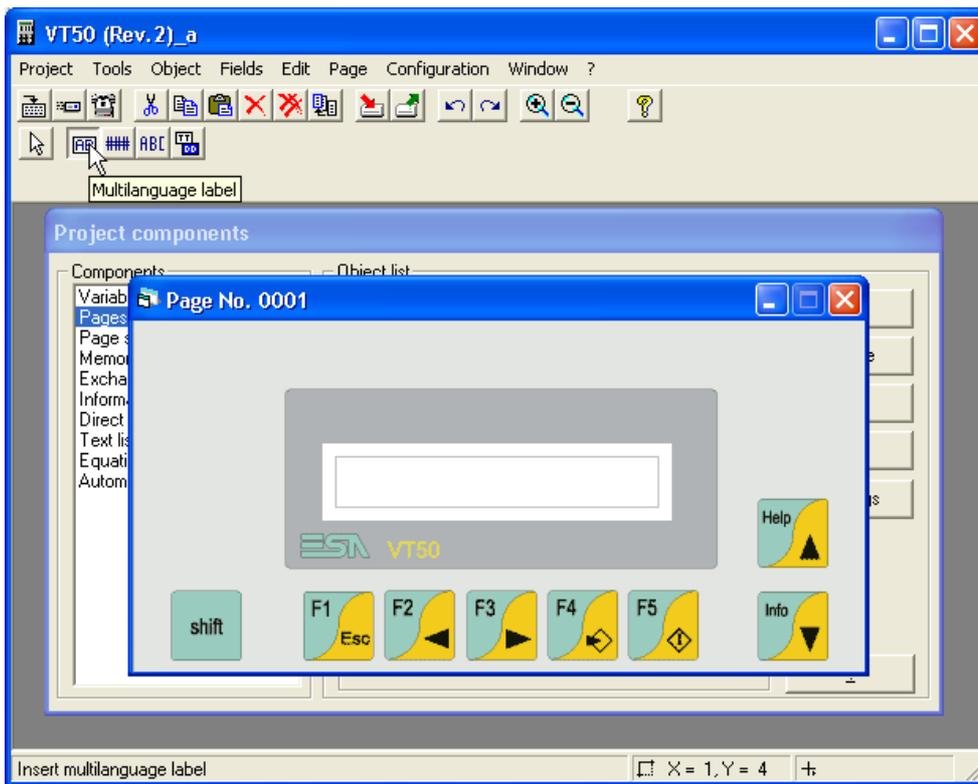

Fig. 19.
3.18 Page No. 0001 screen comes up. Click on the *Multilanguage label* icon from the main menu. See Fig. 19.